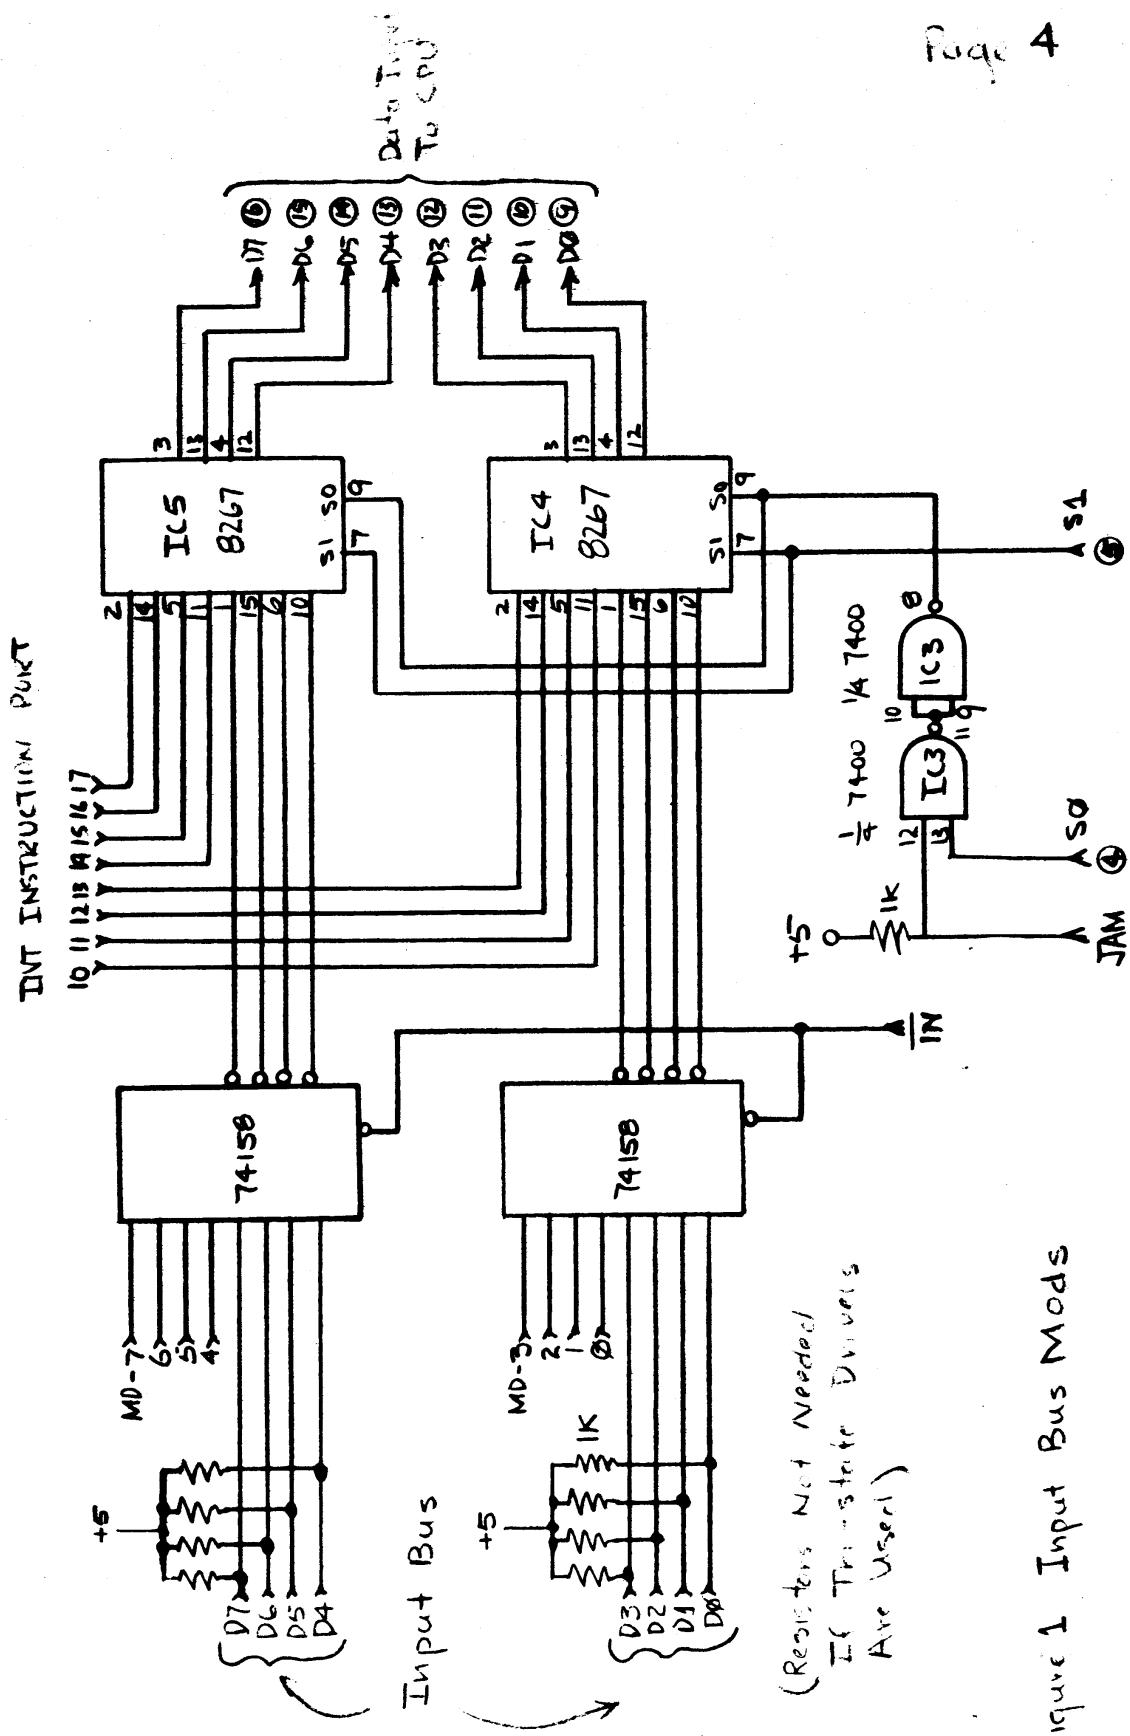

Figure 1 Input Bus Modules
- B. REWIRE THE INPUT MUX BOARD AS SHOWN IN FIG. 1 FOR AN INPUT BUS EITHER TRI-STATE OR WIRED-OR.